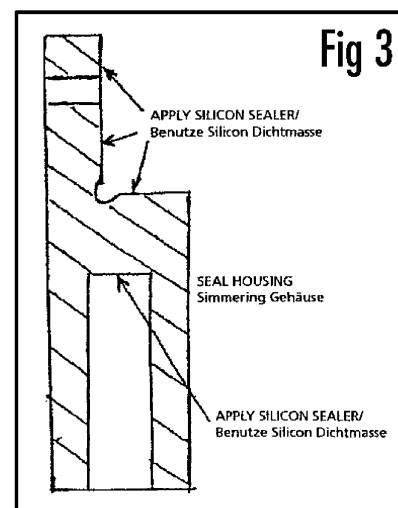

Fig 3
2. Drill extra dia. oil drain holes in the bottom of the rear main cap, (One each side of the original) at a similar angle. This will remove all unnecessary pressure from the seal and will not affect you oil pressure or the main bearing lubrication. (As shown in Fig. 3)